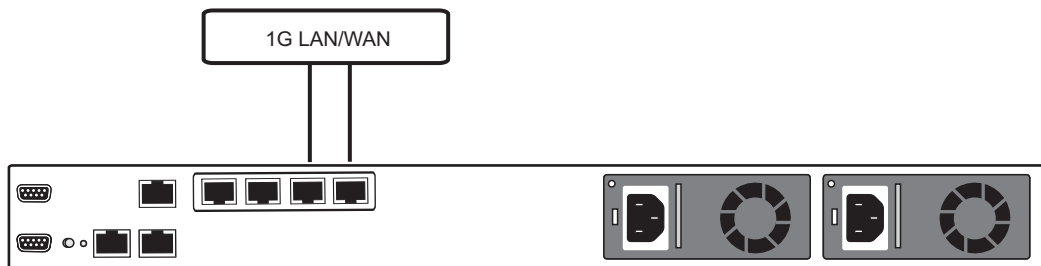

Figure 3.3 Connecting to the Data Network
- To connect the 7800-CTRL to the data network, refer to figure 3.3 on page 20.